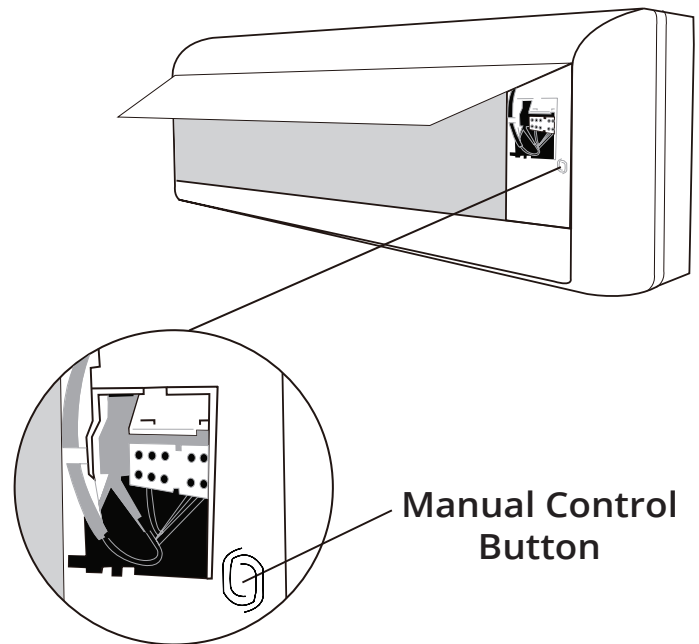

Fig. 10.1
2. The **MANUAL CONTROL BUTTON** is located on the right-hand side of the unit (Refer to Fig 10.1). Press it 2 times to select the COOL function.